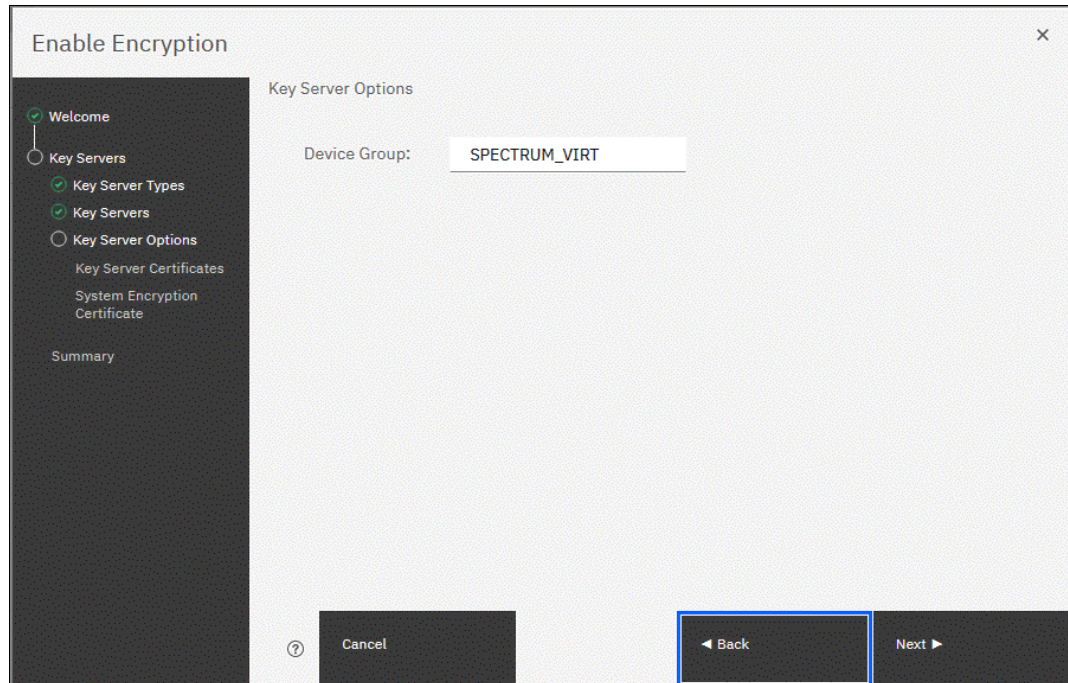

Figure 12-33 Checking the key server device group
- The next window in the wizard is a reminder that the Spectrum_VIRT device group that is dedicated for IBM Spectrum Virtualize systems must exist on the IBM Security Key Lifecycle Manager key servers. Make sure that this device group exists and click **Next** to continue, as shown in Figure 12-33.